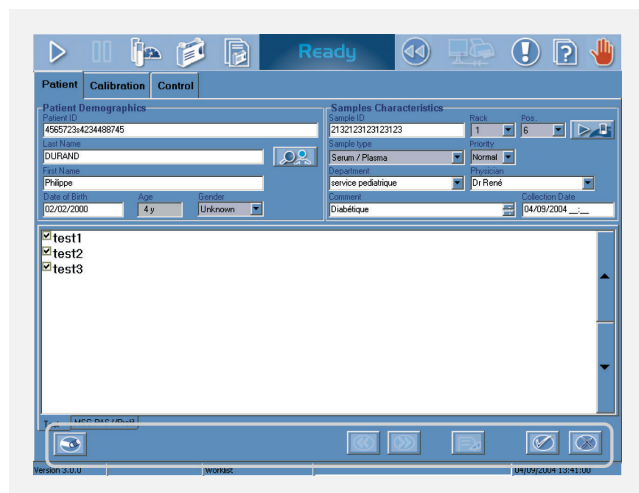

Figure 3 Entering a Patient Request
- Buttons for the most common functions (“Cancel”, “Validate”, “Add”, etc.) are always at the bottom of the screen (Figure 3):
To safeguard the integrity of data, the automatic analyzer has two different modes: “view” and “edit”. By default, all of the application windows open in View mode. The data displayed cannot be modified. This is indicated by a gray background in each of the data fields. Users who wish to modify data must access the “edit” mode by clicking a button located on the tool bar. Once the Edit mode has been accessed, the background color in the data fields switches to white to indicate that the data can now be modified. Figure 3 shows a data field in read-only and edit modes.